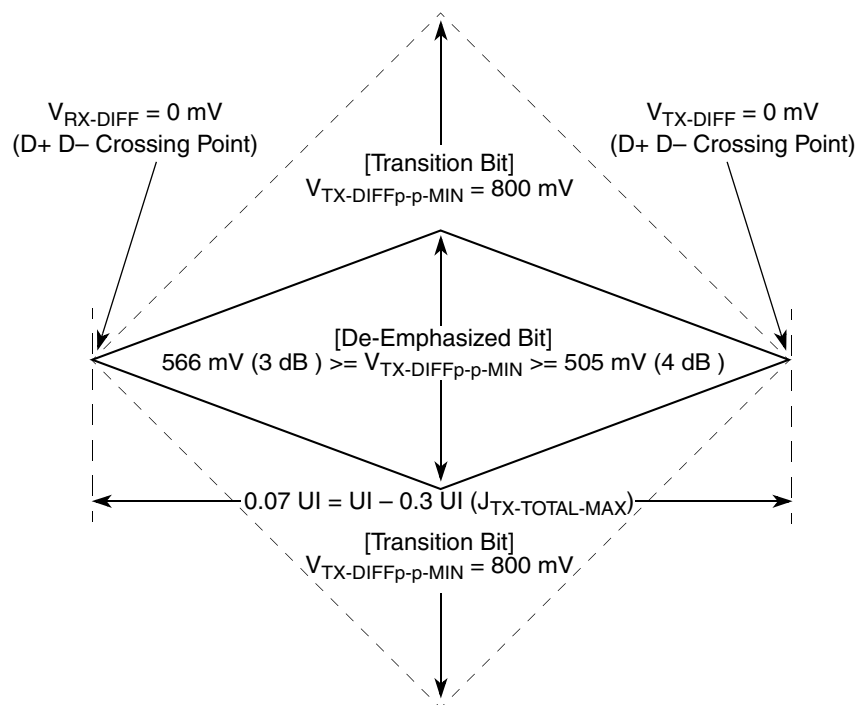
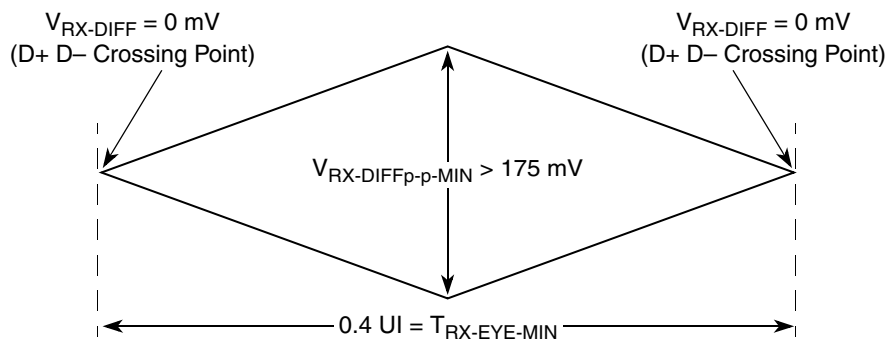
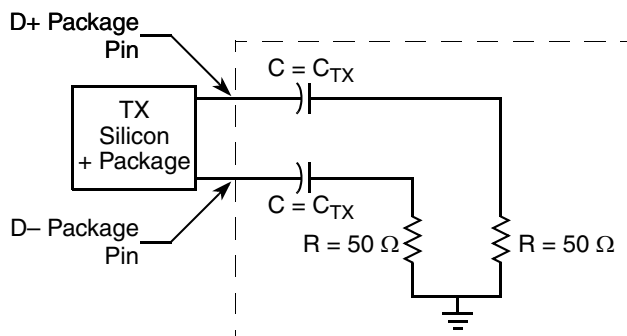

Figure 50. Minimum Transmitter Timing and Voltage Output Compliance Specifications
Figure 51. Minimum Receiver Eye Timing and Voltage Compliance Specification
Figure 52. Compliance Test/Measurement Load
2. Specified at the measurement point into a timing and voltage compliance test load as shown in Figure 52 and measured over any 250 consecutive TX UIs. (Also refer to the transmitter compliance eye diagram shown in Figure 50)
4. The Transmitter input impedance shall result in a differential return loss greater than or equal to 12 dB and a common mode return loss greater than or equal to 6 dB over a frequency range of 50 MHz to 1.25 GHz. This input impedance requirement applies to all valid input levels. The reference impedance for return loss measurements is 50 Ω to ground for both the D+ and D- line (that is, as measured by a Vector Network Analyzer with 50 ohm probes—see Figure 52). Note that the series capacitors C_{TX} is optional for the return loss measurement.
5. Measured between 20-80% at transmitter package pins into a test load as shown in Figure 52 for both V_{TX-D+} and V_{TX-D-} .
The TX eye diagram in Figure 50 is specified using the passive compliance/test measurement load (see Figure 52) in place of any real PCI Express interconnect + RX component.
2. Specified at the measurement point and measured over any 250 consecutive UIs. The test load in Figure 52 should be used as the RX device when taking measurements (also refer to the Receiver compliance eye diagram shown in Figure 51). If the clocks to the RX and TX are not derived from the same reference clock, the TX UI recovered from 3500 consecutive UI must be used as a reference for the eye diagram.
4. The Receiver input impedance shall result in a differential return loss greater than or equal to 15 dB with the D+ line biased to 300 mV and the D- line biased to -300 mV and a common mode return loss greater than or equal to 6 dB (no bias required) over a frequency range of 50 MHz to 1.25 GHz. This input impedance requirement applies to all valid input levels. The reference impedance for return loss measurements for is 50Ω to ground for both the D+ and D- line (that is, as measured by a Vector Network Analyzer with 50 ohm probes - see Figure 52). Note: that the series capacitors C_{TX} is optional for the return loss measurement.
The RX eye diagram in Figure 51 is specified using the passive compliance/test measurement load (see Figure 52) in place of any real PCI Express RX component.
Note: In general, the minimum Receiver eye diagram measured with the compliance/test measurement load (see Figure 52) will be larger than the minimum Receiver eye diagram measured over a range of systems at the input Receiver of any real PCI Express component. The degraded eye diagram at the input Receiver is due to traces internal to the package as well as silicon parasitic characteristics which cause the real PCI Express component to vary in impedance from the compliance/test measurement load. The input Receiver eye diagram is implementation specific and is not specified. RX component designer should
provide additional margin to adequately compensate for the degraded minimum Receiver eye diagram (shown in Figure 51) expected at the input Receiver based on some adequate combination of system simulations and the Return Loss measured looking into the RX package and silicon. The RX eye diagram must be aligned in time using the jitter median to locate the center of the eye diagram.
The reference impedance for return loss measurements is 50Ω to ground for both the D+ and D- line (that is, as measured by a Vector Network Analyzer with 50Ω probes—see Figure 52). Note that the series capacitors, C_{TX}, are optional for the return loss measurement.
The AC timing and voltage parameters must be verified at the measurement point, as specified within 0.2 inches of the package pins, into a test/measurement load shown in Figure 52.